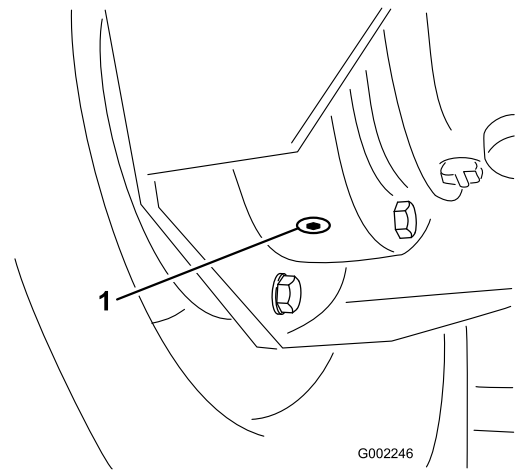

Figure 82
4. Align a pan under the inner drain plug at the brake housing and remove the plug (Figure 82).